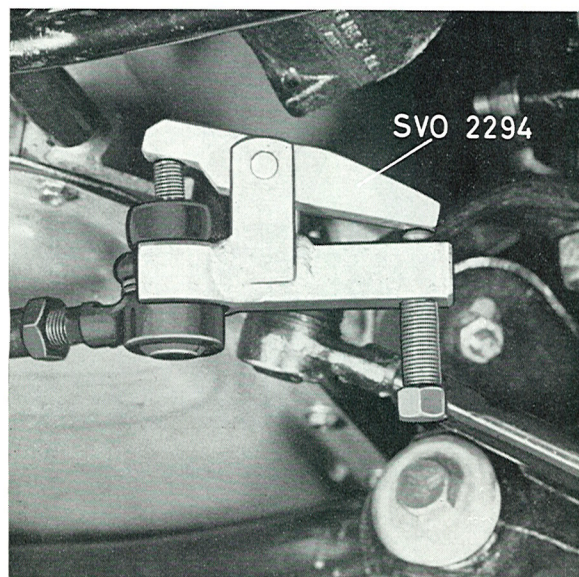

Fig. 6-48. Removing the ball joint
2. Disconnect the ball joints for the steering rod and tie rod from the relay arm with puller SVO 2294, see Fig. 6-48.